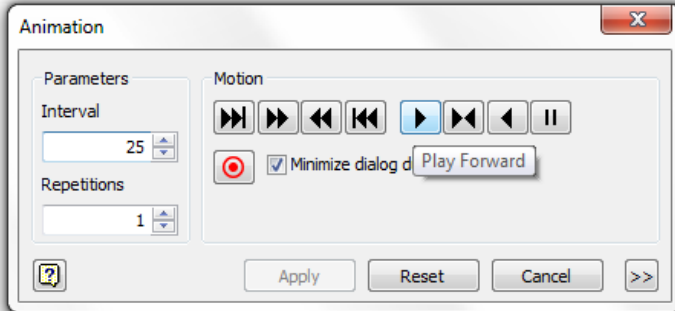

Figure Step 17A
Step 17 Study Figure Step 17A, 17B, 17C, and 17D. Play the animation of the assembly that you created in this workalong. Try the different options allowed in the Motion box. (Figure Step 17A, 17B, 17C, and 17D)